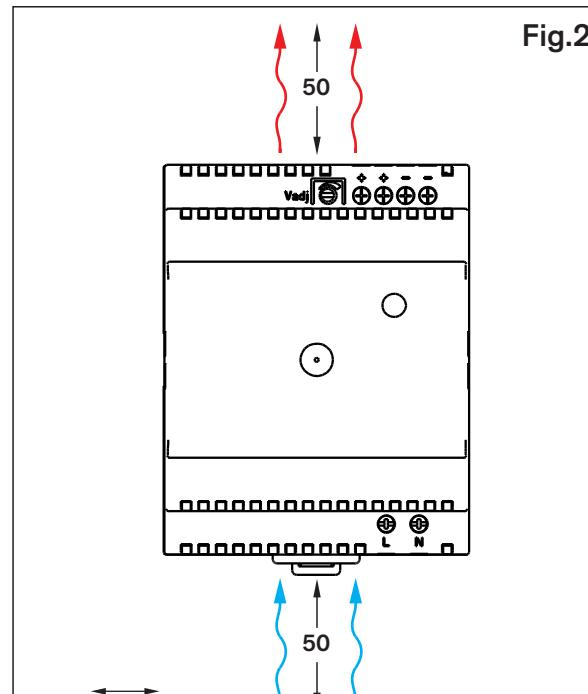

Fig.2
- Sufficient cooling must be ensured. Fig.2
The device can be mounted onto 35mm DIN rails, compliant with the specifications of DIN EN 50022. Observe the requirements for ventilation space above and below the device. Fig.2.